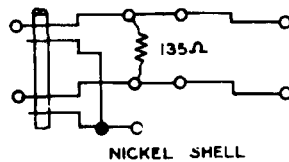

Fig. 17—323A Plug
2.16 323A: The 323A (Fig. 17) is a twin, 2-conductor plug in which the sleeves and shells are connected together to form a shield for the tip conductors. The plug is equipped with a 135-ohm resistor that is connected across the tips of the plug fingers and is used with the 218- or similar-type jacks. The 323A plug is used for terminating K Carrier Telephone Toll Lines and for taking level measurements.